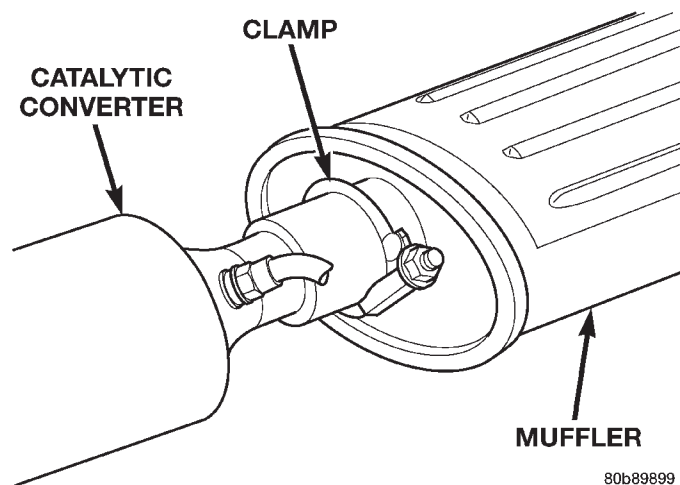

Fig. 6 Catalytic Converter to Muffler Connection
(3) Remove the front exhaust clamp from the catalytic converter and muffler connection (Fig. 6).
- (5) Align the muffler and tighten the nuts on the muffler-to-catalytic converter clamp to 61 N·m (45 ft. lbs.) torque (Fig. 6).
- (6) Align the tailpipe and install a new clamp at the muffler to tailpipe connection.
- (7) Tighten the muffler to tailpipe clamp to 61 N·m (45 ft. lbs.)
- (8) Lower the vehicle.
- (9) Start the engine and inspect for exhaust leaks and exhaust system contact with the body panels. Adjust the alignment, if needed.